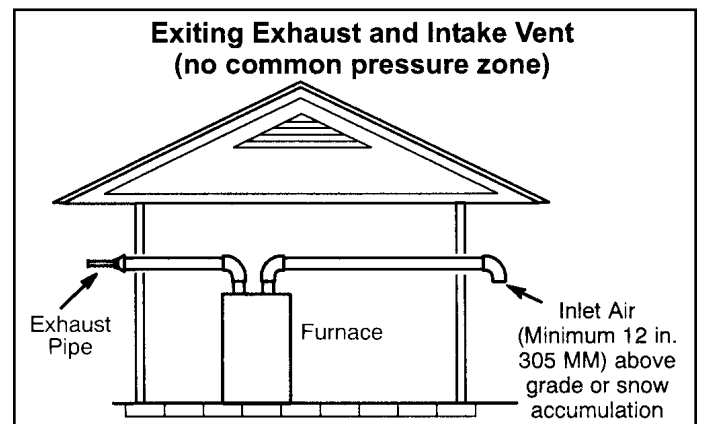

Figure 37.
1. Intake and exhaust terminations are not required to be in the same pressure zone. You may exit the intake on one side of the structure and the exhaust on another side (Figure 37). You may exit the exhaust out the roof and the intake out the side of the structure (Figure 38).